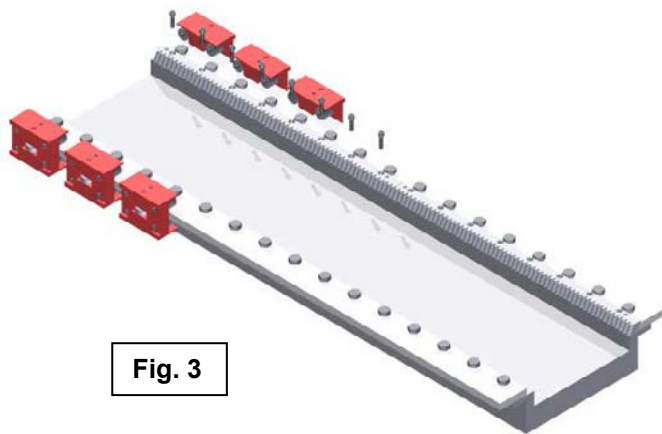

Fig. 3
- The flatness and joints must be checked before the next gear rack is attached. Fit the next gear rack and position it over the corresponding fixing holes. (Fig. 3)